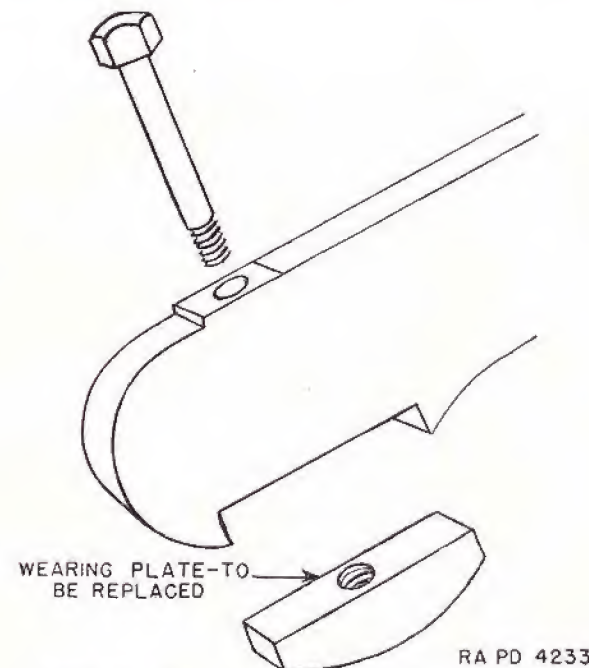

FIGURE 52.—Removal of wearing plate from bogie lever arm.
(10) To replace the spring, reverse the procedure, using jack to raise lever spring plate, and *spring* it in place.
g. Wearing plates.—Replace worn or damaged wearing plates as shown in figure 52.